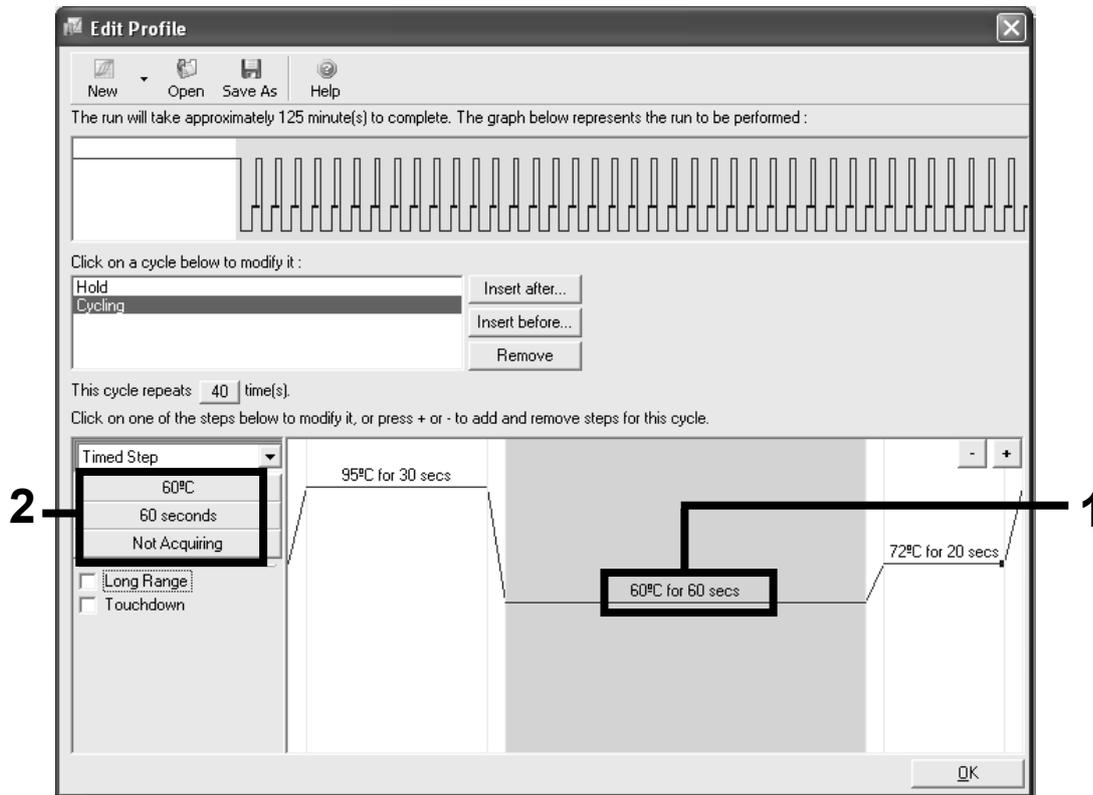

Figure 7. Cycling step at 60°C.
14. Highlight the second step, and set to 60°C for 60 seconds. Enable data acquisition during this step by selecting the “Not Acquiring” button (Figure 7).